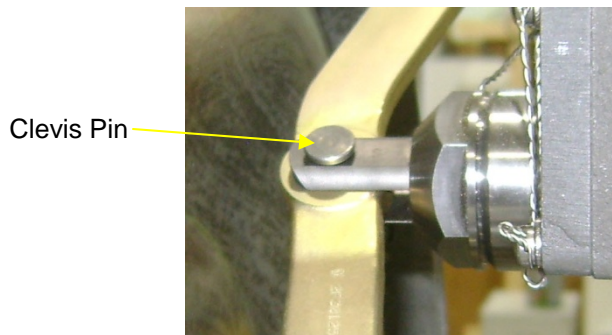

Figure 5-3: Beta Valve Piston Viewed From Above
- b. Remove the clevis pin securing the beta arm to the beta valve piston. Refer to **Figure 5-3**.